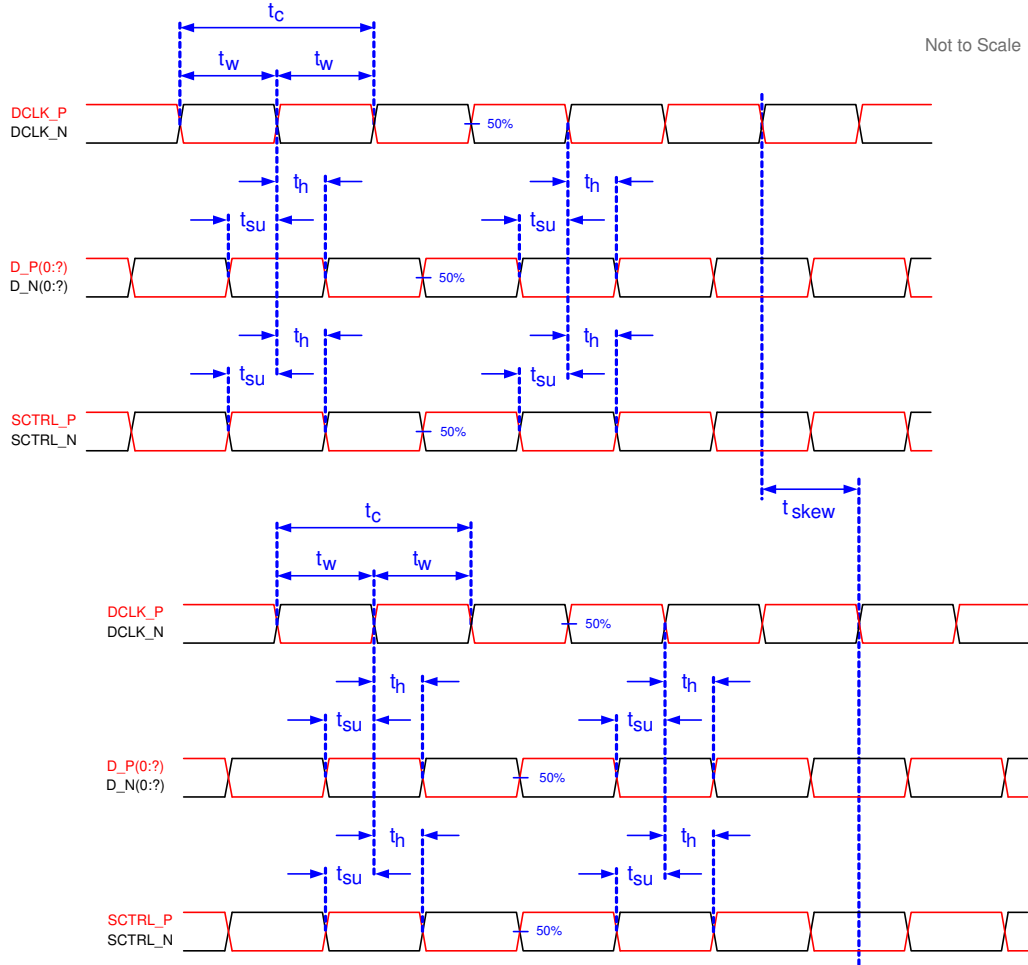

Figure 6-6. Timing Requirements
- (7) See LVDS Timing Requirements in Section 6.8 and Figure 6-6.
(1) See Figure 6-6 for timing requirements for LVDS.
(2) Channel A (Bus A) includes the following LVDS pairs: DCLK_AN and DCLK_AP, SCTRL_AN and SCTRL_AP, D_AN(15:0) and D_AP(15:0).
(3) Channel B (Bus B) includes the following LVDS pairs: DCLK_BN and DCLK_BP, SCTRL_BN and SCTRL_BP, D_BN(15:0) and D_BP(15:0).